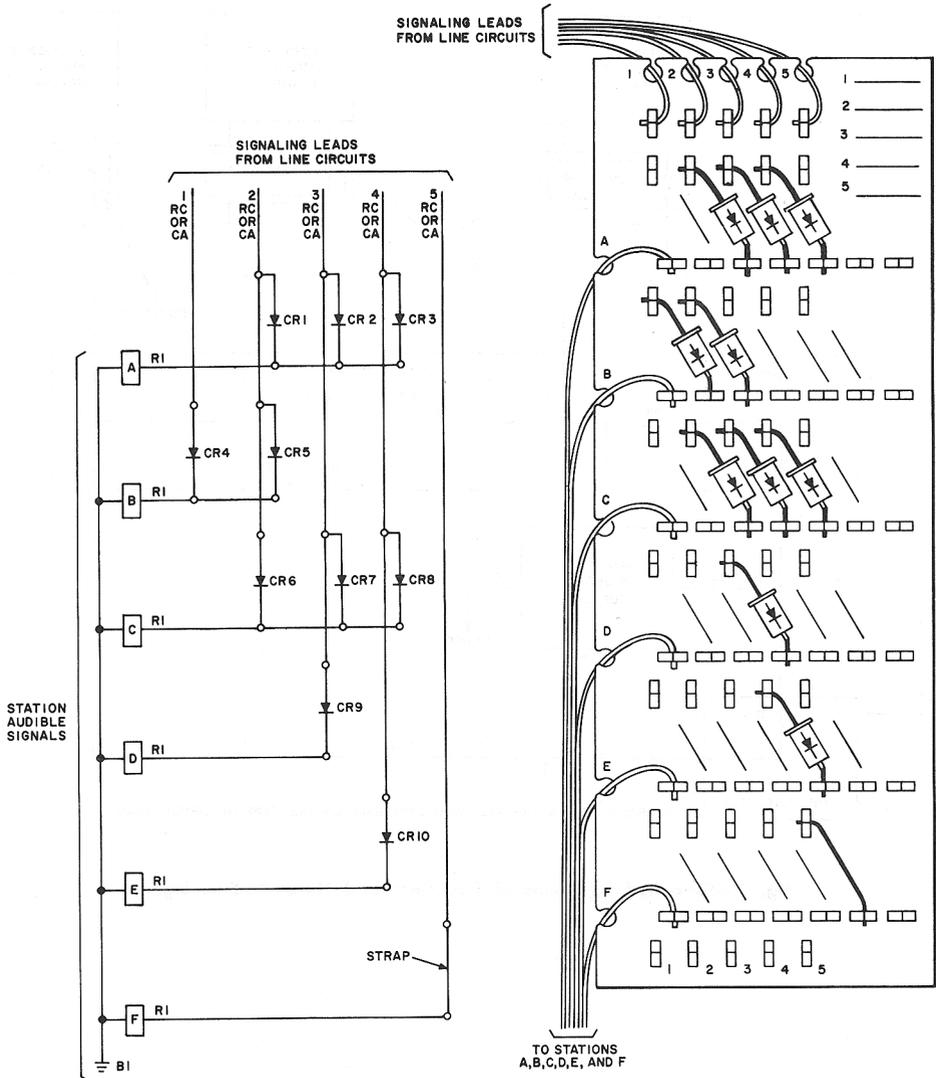

Fig. 4—1A1 Matrix Block Application
**3.01** An example of a diode matrix installation is shown in Fig. 4. To the left is a schematic representation of the 1A1 matrix block at the right. Diodes (446 type or equivalent) are connected so their arrows point towards the station audible signals, permitting five signaling leads to control six audible signals. The block could also be wired to permit six signaling leads to control five audible signals by connecting the signaling leads at the left side (A-F) and the audible signals at the top (1-5). For this configuration all diodes must be connected so their arrows point toward the audible signals.
**3.02** A strap is used to connect a signaling lead to an audible signal if neither is common to any other signaling lead or audible signal. An example of this is the strap between signaling lead 5(CA) and audible signal F (Fig. 4).
**3.04** The matrix in Fig. 4 is arranged so that: